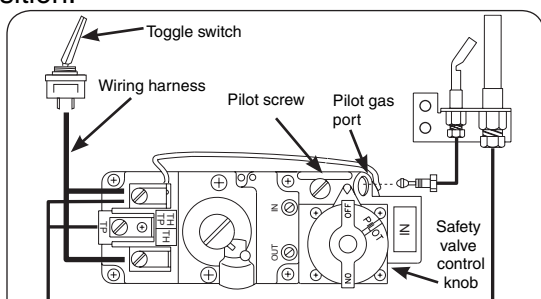

Fig. 21-1
To read the safety valve control knob (Fig. 21-1), read the marking nearest the teardrop-shaped metal pointer.
- b. If adjustment is necessary (Fig. 21-1), turn the gas adjustment screw counterclockwise ↺ to increase the pilot flame, or clockwise ↻ to decrease the pilot flame.